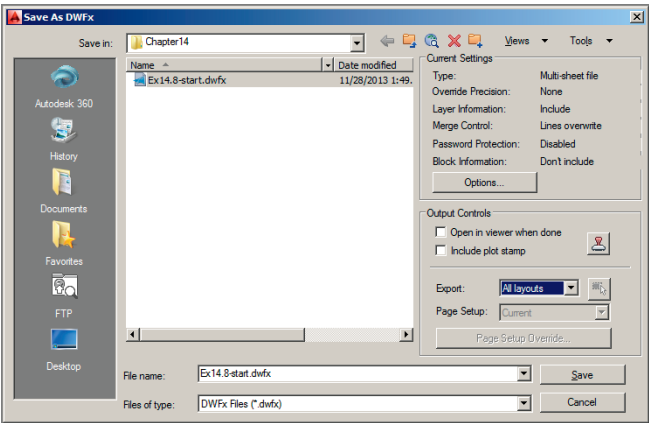

FIGURE 14.23 Save as DWFx
- 2. Select All Layouts from the Export drop-down menu in the Save As DWFx dialog box (see Figure 14.23). Click Save.